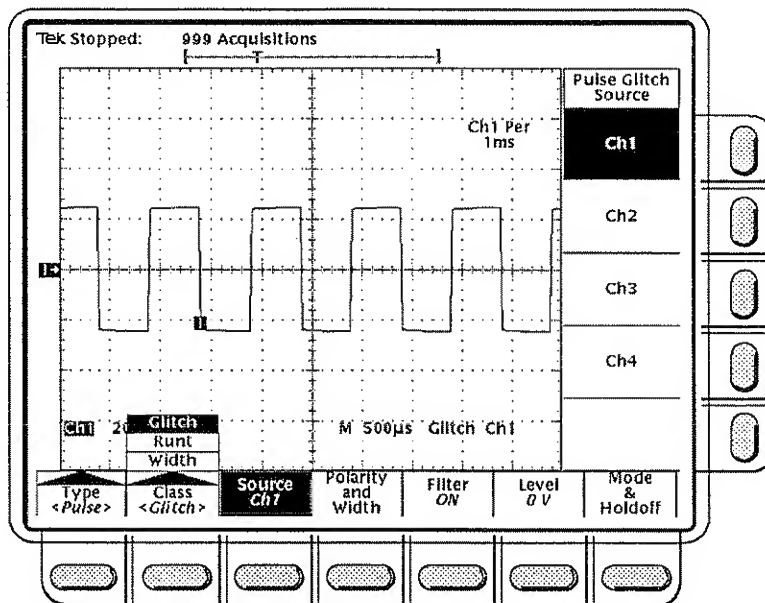

Figure 3-15: Main Trigger Menu – Glitch Class
- ☐ **Step 1:** Press the **TRIGGER MENU** button to bring up the Main Trigger menu (Figure 3-15).